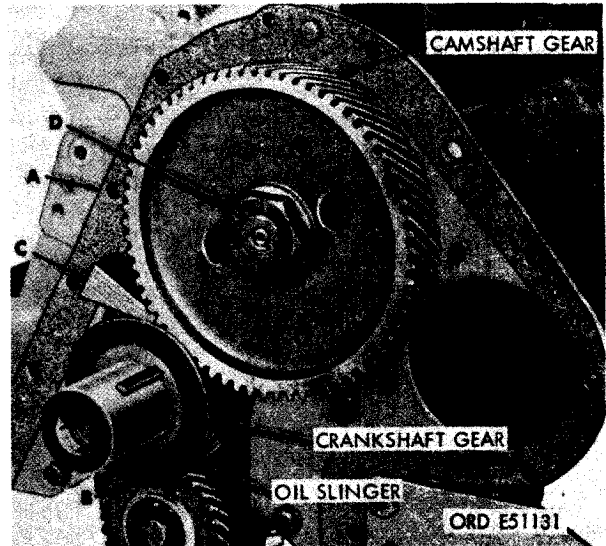

FIGURE 290. REMOVING CRANKSHAFT OIL SLINGER AND LOOSENING GEAR RETAINING NUT.
- (1) Figure 290. (A) Remove and discard cover gasket. (B) Remove crankshaft oil slinger. (C) Wedge a wooden block between camshaft and crankshaft gears to prevent gears from turning while camshaft gear retaining nut is loosened. (D) Loosen camshaft gear retaining nut.